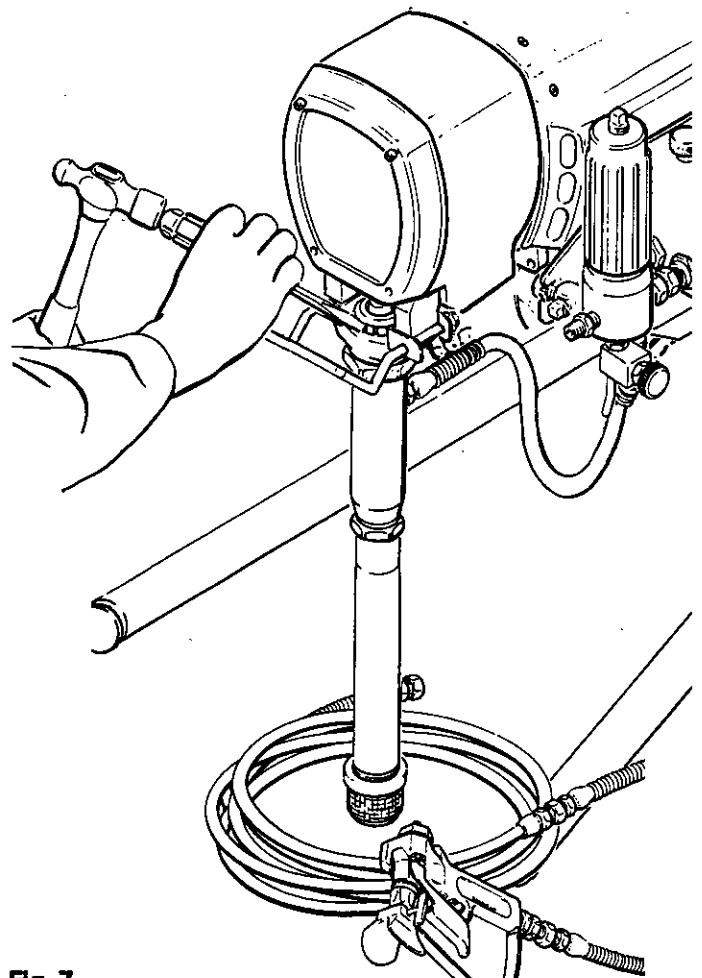

Fig 7
1. **Check the packing nut/wet-cup daily.** First follow the **Pressure Relief Procedure Warning** on page 10. Be sure the wet-cup is 1/3 full of TSL at all times to help prevent paint buildup on the piston rod and premature wear of packings. The packing nut should be tight enough to stop leakage, but no tighter. Overtightening may cause binding and excessive packing wear. Use a screwdriver and light hammer to adjust the nut. See Fig 7.